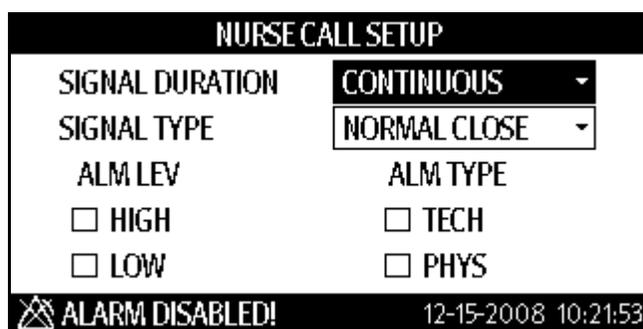

FIGURE 4-7 NURSE CALL SETUP Dialog
6. Once **NURSE CALL** is highlighted, press  to display the NURSE CALL SETUP dialog shown in FIGURE 4-7.